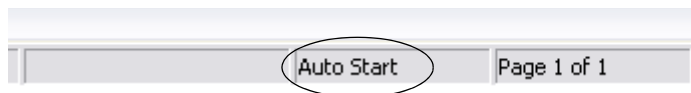

Figure 27. Auto Start in the Alarm List Status Bar
11. If **Automatic start of list when alarms are updated in stop mode** is selected the list automatically starts updating when new alarms or events are received in stop mode. An indication in the status bar shows that the enable auto start is activated, see Figure 27.